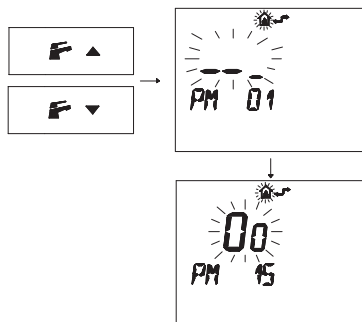

Fig. 7.13
- Press buttons **F** **▲** or **F** **▲** to display the **"PM15"** program that enables the external probe (Fig. 7.13).